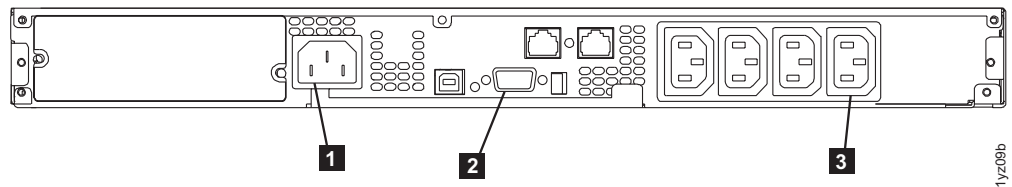

Figure 34. 2145 UPS-1U (rear view)
7. At the back of the 2145 UPS-1U, plug the 2145 UPS-1U main-power connector into the power socket (1 in Figure 34). The 2145 UPS-1U is in standby mode, so all indicators are off.